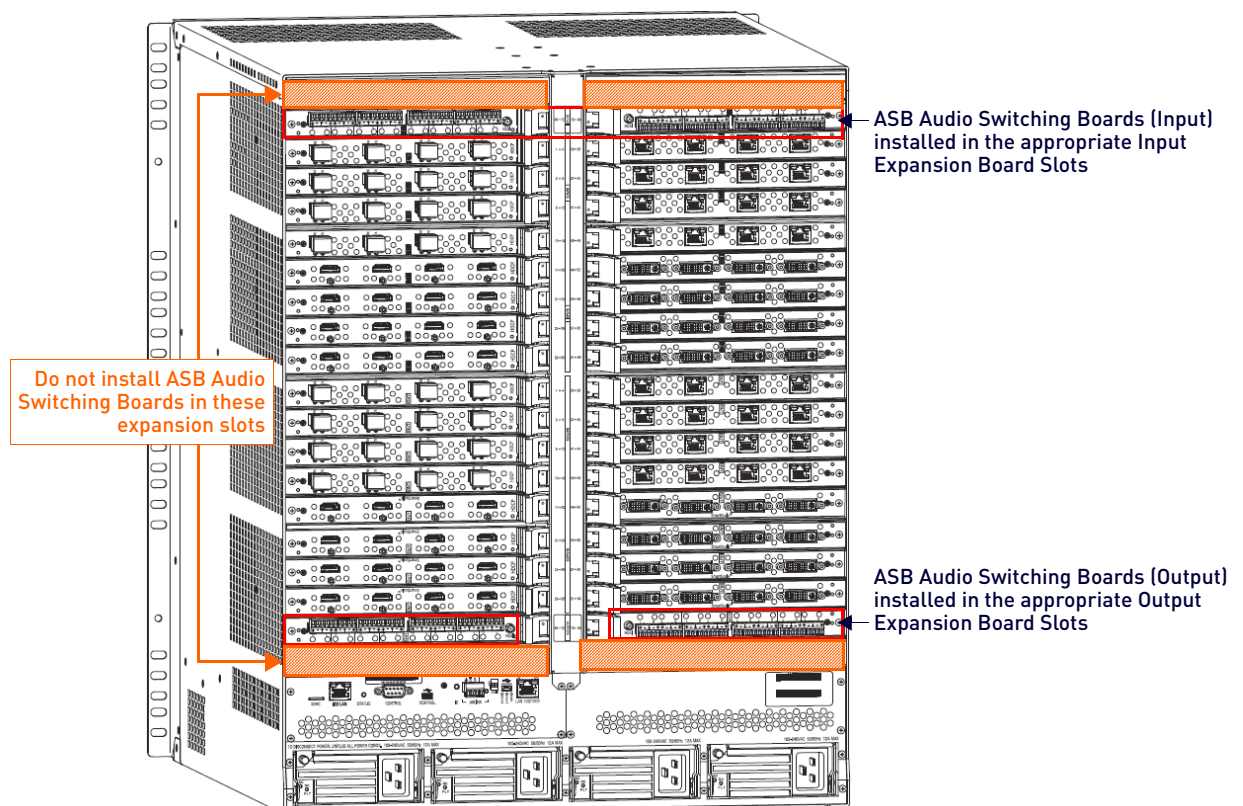

FIG. 74 ASB Audio Switching Boards - Enova DGX 6400 shown
- Enova DGX 6400 Audio Switching Boards *must* be installed in the expansion board slots (see FIG. 74 on page 165).
- Audio signals can be routed from any of the standard video input board connectors (embedded audio) or from any of the terminal block connectors (audio only) on the Audio Switching Input Board to: (1) any of the standard video output board connectors, (2) any of the terminal block connectors on the Audio Switching Output Board, or (3) a combination of standard video output connectors and terminal block connectors.
- Enova DGX 6400 enclosures – *Must* use two input boards and two output boards in specific expansion board slots (FIG. 74). Boards are installed horizontally: